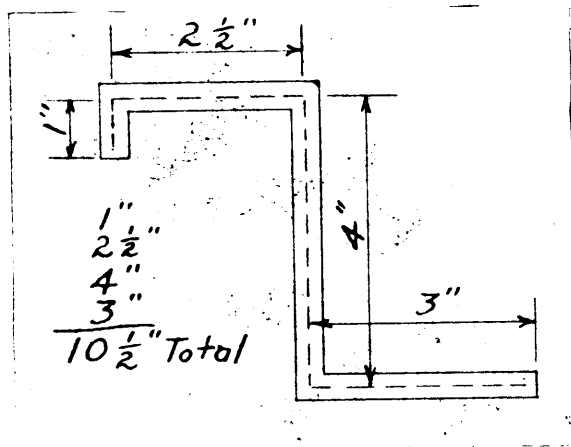

Figure 6.
2. As shown in Figure 6, where angles are formed it generally takes more metal, however, in the center of angle the length always remains the same.
4. The simplest method of determining the length needed for pieces, successive parts of which are straight, or portion of circles as shown in Figure 6, is to calculate separately the length required for each part and then take the sum of these with necessary allowances. In this calculation the basis should be from the center line.